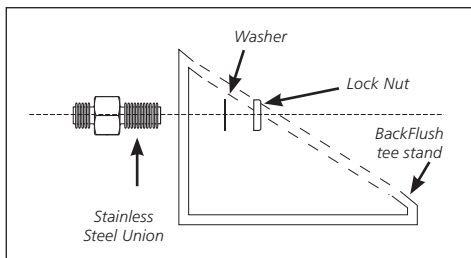

Figure 2.
- Place the BackFlush tee stand in the oven. Attach the 1/16" stainless steel union to the stand using the lock nut and washer located on the longest side of the union as shown in Figure 2.